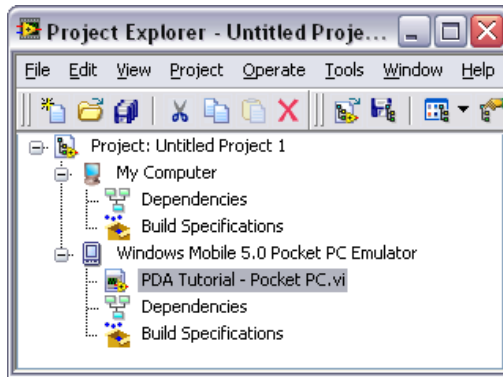

Figure 6. Adding a VI to the Project
7. Add the PDA Tutorial - Pocket PC VI to the project by navigating to `labview\examples\PDA\PocketPC\tutorial` and selecting `PDA Tutorial - Pocket PC.vi`. Click the **Add File** button to add the VI to the project. The VI appears in the **Project Explorer** window under the PDA target as shown in Figure 6.